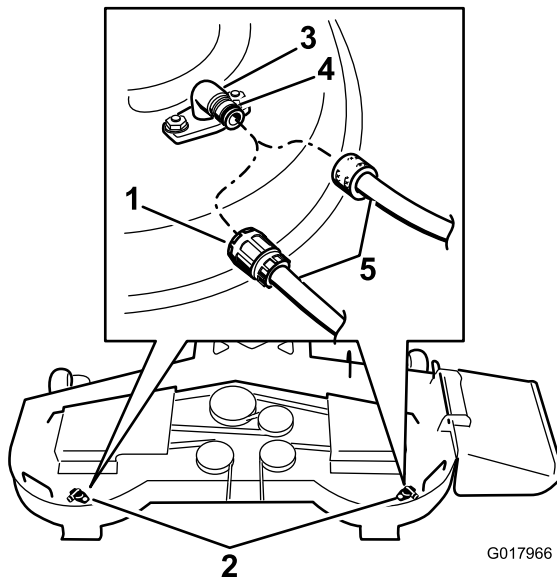

Figure 68
3. Attach the hose coupling to the end of the mower washout fitting, and turn the water on high (Figure 68).